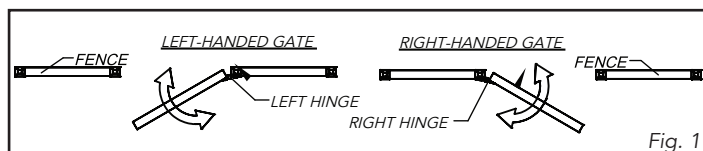

Fig. 1
1. If you are on the side of the fence with the hinges facing you (with the gate opening towards you), then the side the gate is on will indicate the handing (Fig. 1).